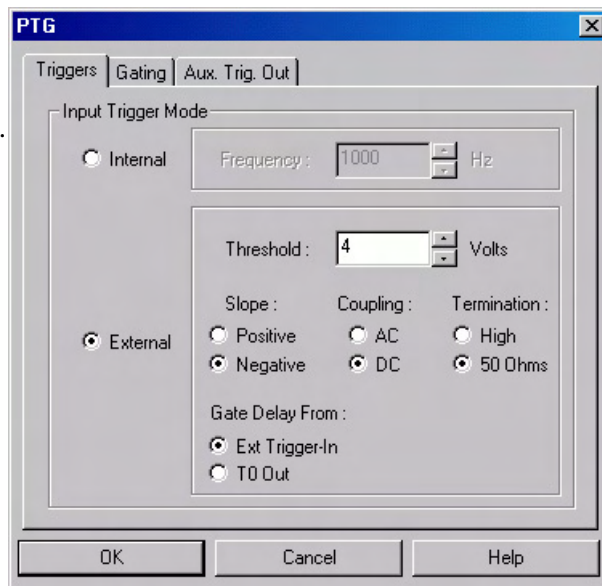

Figure 177. PTG Triggers tab page
3. Select **PTG**. Then click on the **Setup Pulser** button. The PTG dialog box (Figure 177) will open. *If PTG is grayed out on the **Pulsers** dialog box, PTG support has not been installed.*